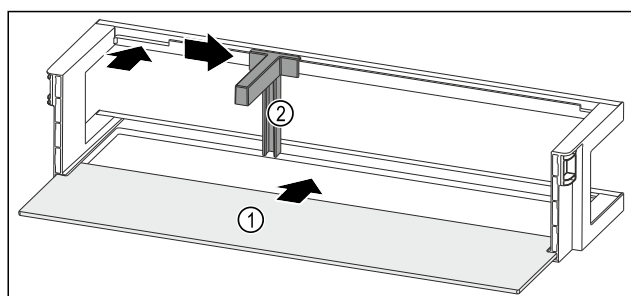

Fig. 128 Door rack with shelf
- Push the shelf Fig. 128 (1) into the side recesses.
- Insert the bottle holder Fig. 128 (2) in the recess.
- Push the bottle holder Fig. 128 (2) to the desired position to the side.